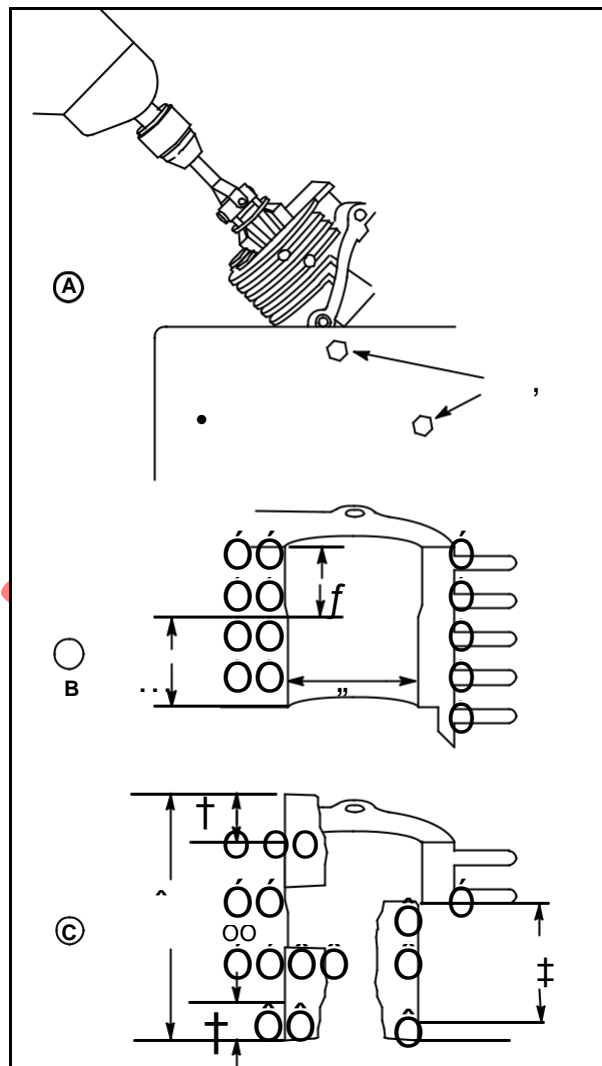

Fig. 3
Use crankcase cover mounting screws (2) to fasten cylinder to a honing fixture (1), **Fig. 3 (A)**.
Lubricate hone as recommended by hone manufacturer. The recommended drill speed is **300 – 700 RPM** and **40 - 60 strokes per minute**. Because cylinder bores normally wear only in the area of ring travel (3), the cylinder bore will be round above and below ring travel area, **Fig. 3 (B)**. Start drill and, as hone spins, move it up and down (7) at the bottom of the cylinder bore (4). Gradually increase the length of the strokes until hone travels full length of cylinder bore (8), but no more than **3/4 – 1" (19 – 25 mm)** above or below (6) cylinder bore, **Fig. 3 (C)**. Lubricate hone frequently to prevent build up on stones.